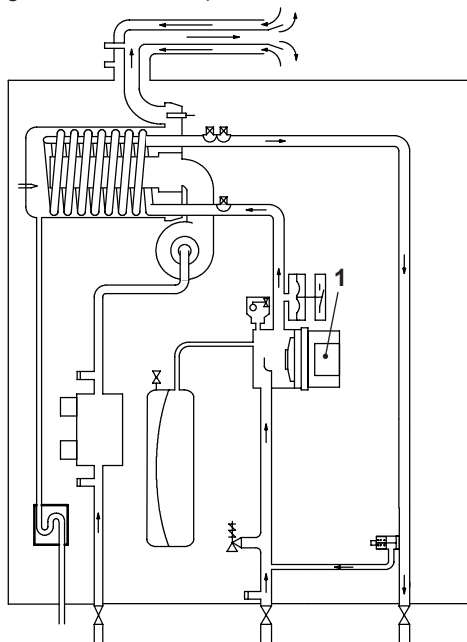
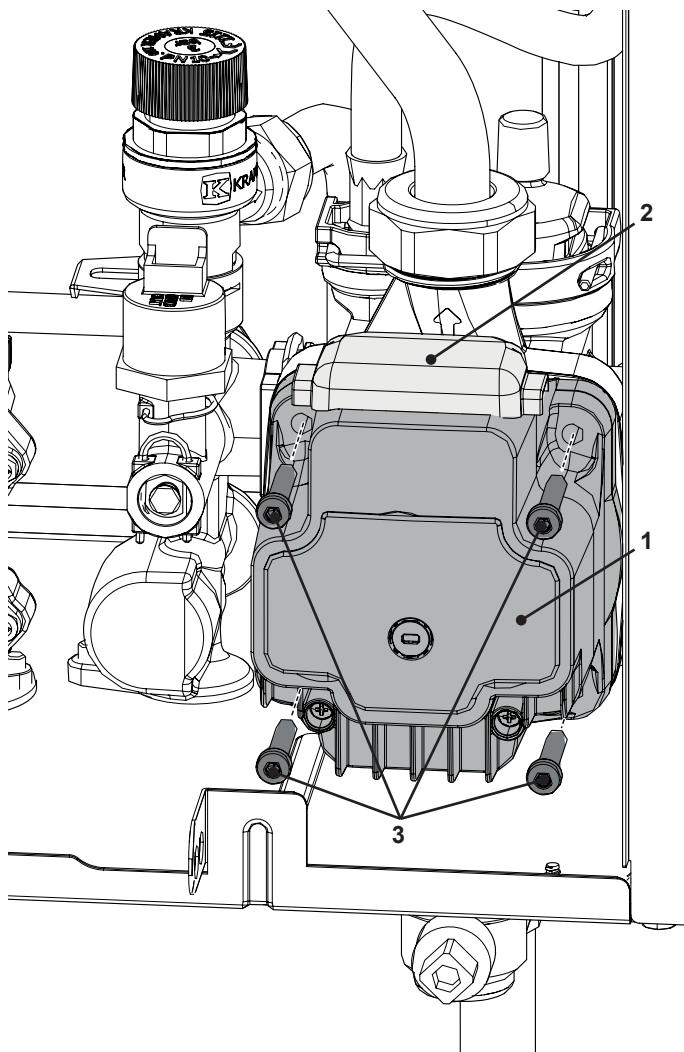

Figure 6.1
Figure 6.2
The pump "1" in Figure 6.1 and Figure 6.2 has the function of making the water in the main circuit circulate through the main condensing heat exchanger and therefore through the C.H. system (during the C.H. function).
- 3 Disconnect the connector "2" (Figure 6.2).